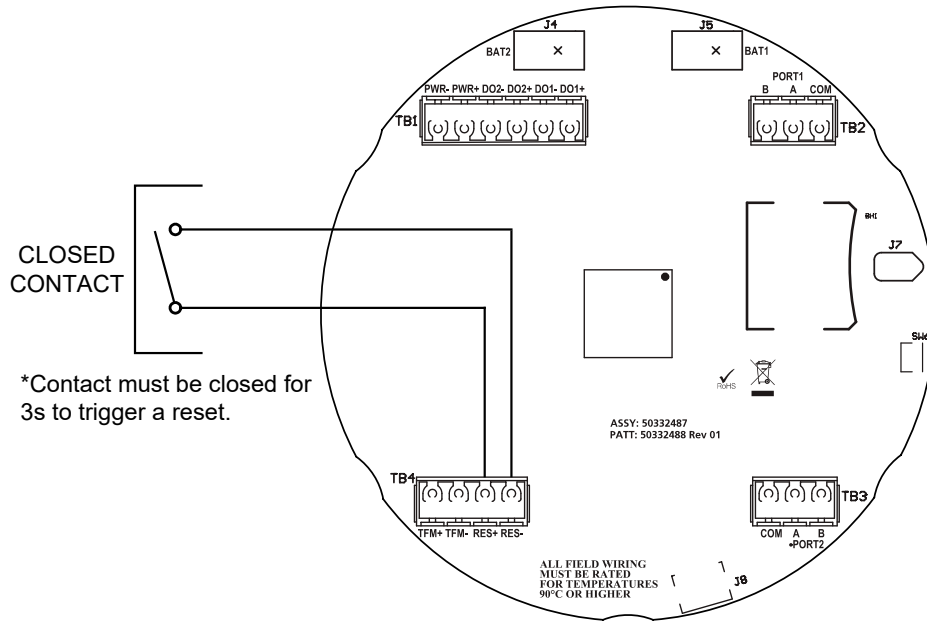
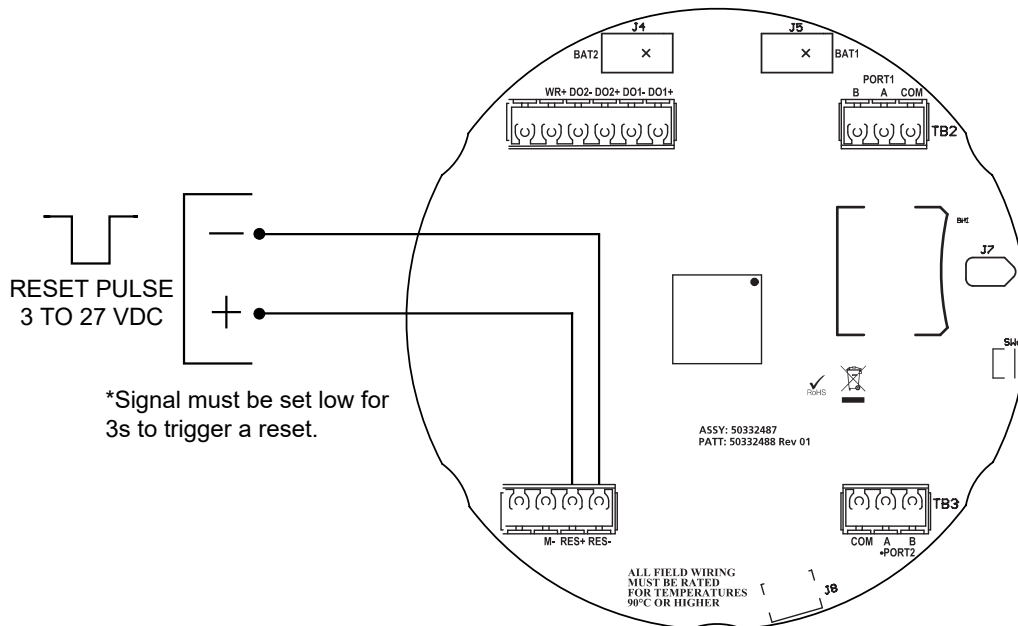

Figure 2.10—Reset wiring for contact closure
Figure 2.11—Reset wiring for pulse input
6. Connect wiring for the remote reset input to terminal block TB4, if appropriate. See Figure 2.10 and Figure 2.11, page 42.
The remote reset input allows the operator to reset the accumulated volume on the MC Synergy WP to zero without opening the enclosure. This input is not optically isolated. The input may be connected in one of two ways, either with a closed contact (switch) (Figure 2.10), or with a DC pulse in a remote location (Figure 2.11). The remote reset input mode (closed contact or DC pulse) is selectable through the PC software.